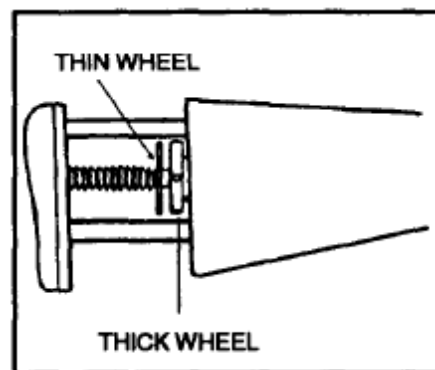

Figure 2-7. Stock adjustment.
d. Stock Adjustment. The M24's stock has an adjustable butt plate to accommodate the length of pull. The stock adjustment (Figure 2-7) consists of a thin wheel and a thick wheel. The thick wheel adjusts the shoulder stock. The thin wheel locks the shoulder stock.